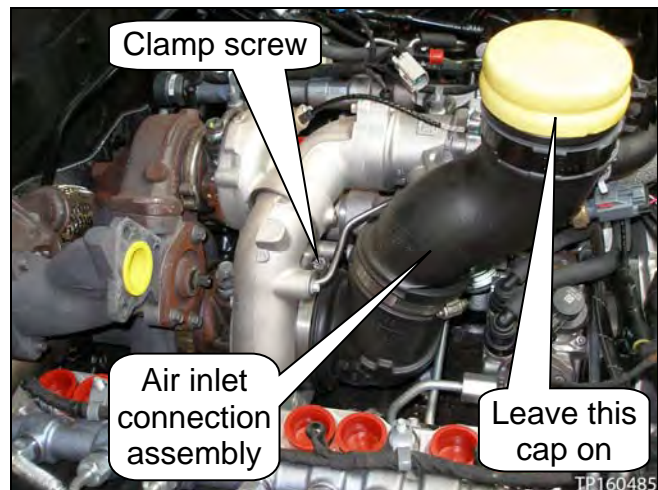

Figure 45
34. Loosen the clamp, and then remove the air inlet connection assembly (see Figure 45).